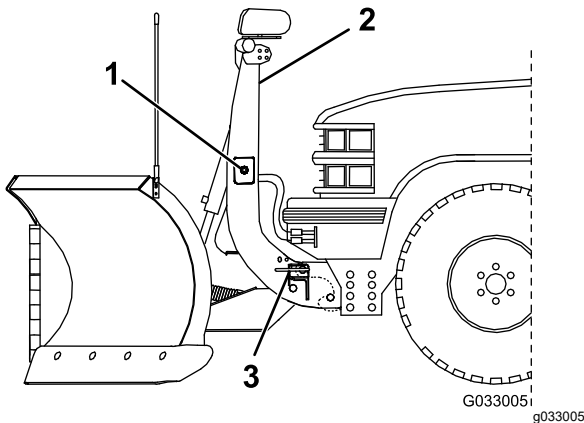

Figure 32
5. Push the SmartHitch2 switch on the side of the coupler tower up to release the pins, then down to lower the tower completely (Figure 32).